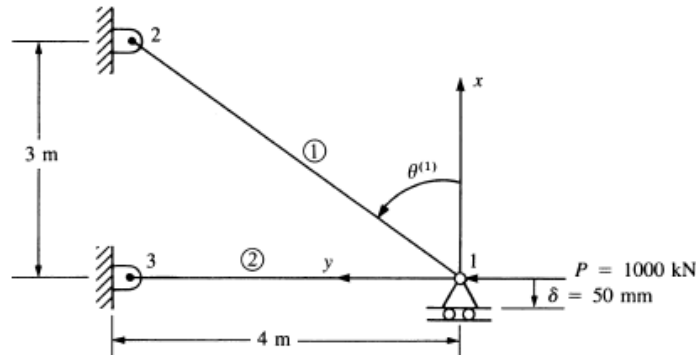

Figure 2
- Q.2 (a)** For the two-bar truss shown in Figure 2, determine the displacement in the y direction of node 1 and the axial force in each element. A force (P) of 1000 kN is applied at node 1 in the positive y direction while node 1 settles an amount equal to 50 mm in negative x direction. Take modulus of elasticity (E) as 210 GPa and cross section area (A) as 0.0006 m² for each element. 07